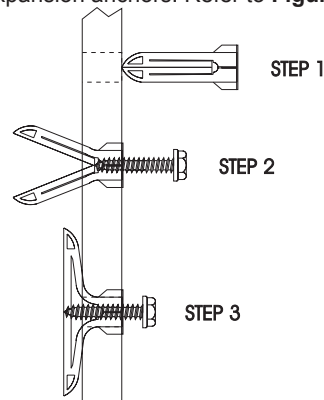

Figure 12
- 3b. After locating mounting holes, drill two 5/16-inch diameter holes into wall. Insert the two plastic expansion anchors into holes. Insert two #10 x 1 1/2-inch screws provided in blower kit into two plastic expansion anchors. Do not completely tighten screwhead to plastic expansion anchors, leave a 7/16-inch gap between screwheads and plastic expansion anchors. Refer to **Figure 12**.
- 7b. After locating mounting holes, drill two 5/16-inch diameter holes into wall. Insert two plastic expansion anchors into holes. Insert two #10 x 1 1/2-inch screws provided in blower kit into two plastic expansion anchors. Do not completely tighten screwhead to plastic expansion anchors, leave a 7/16-inch gap between screwheads and plastic expansion anchors. Refer to **Figure 12**.